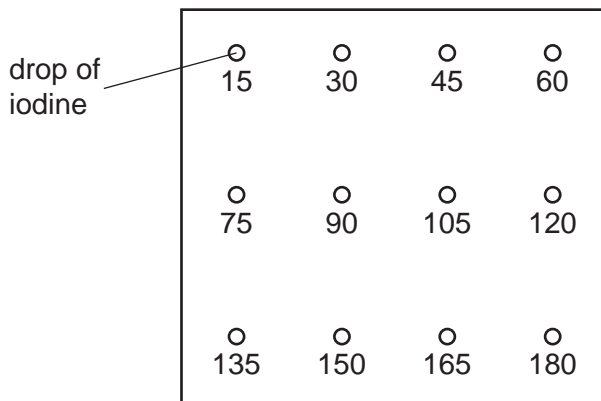

Fig. 1.2
3. Wipe the tile clean with a damp paper towel and then dry the tile. Label the tile, as shown in Fig. 1.2. The numbers indicate the sampling times in seconds.
4. Put one drop of **iodine** on the tile at each sampling time, as shown in Fig. 1.2.